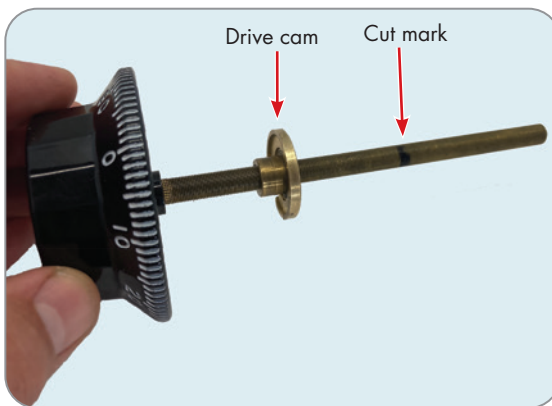

Figure 12-7: Before cutting your spindle, screw the drive cam back down below your cut mark.
3. Cut the spindle off at your marked location (see Figure 12-7).